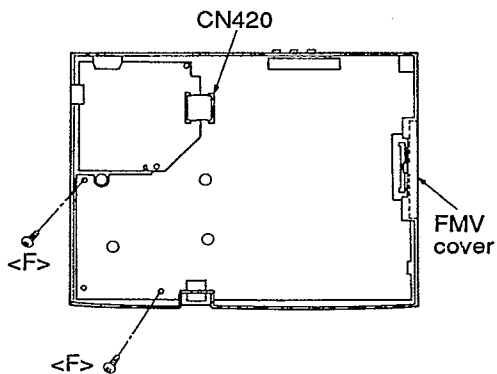

Figure 7
- (4) Remove the two screws <F> as shown in figure 7.
- (5) Disconnect the connector (CN420) and then remove the Main PCB.